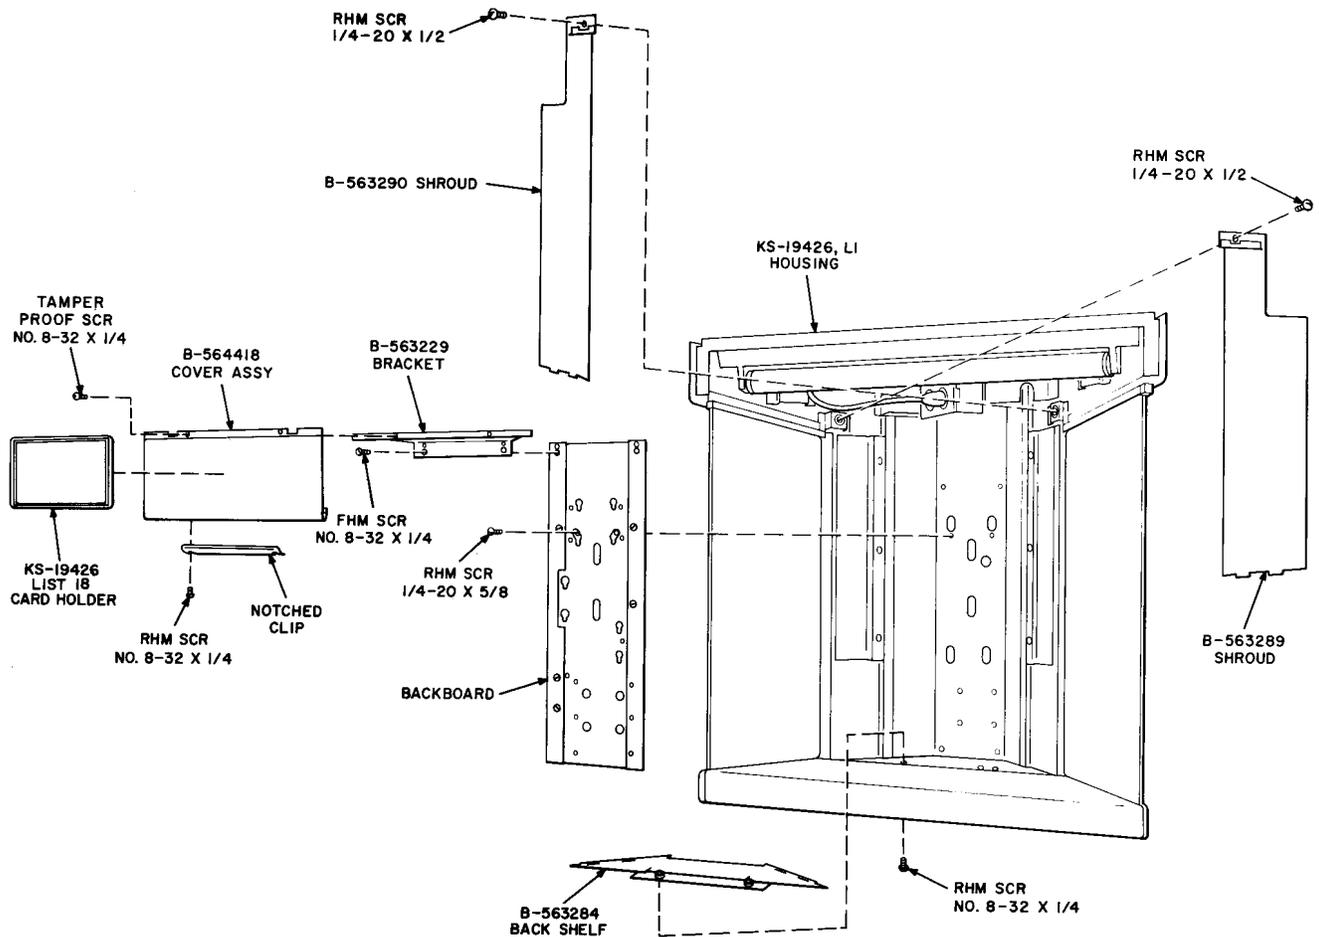

Fig. 9—KS-19426, L8 Installation Kit
2.12 List 8 Installation Kit: If a 200-type coin collector is used, install KS-19426, List 8 installation kit (Fig. 9) as follows:
2.13 List 18 Cardholder: If a List 18 cardholder is required for the 200-type coin collector install as follows (Fig. 9):
(10) Install B-564418 subscriber set cover assembly on B-563229 bracket using two No. 8-32 by 1/4 tamper proof screws and KS-19192, List 1 wrench.